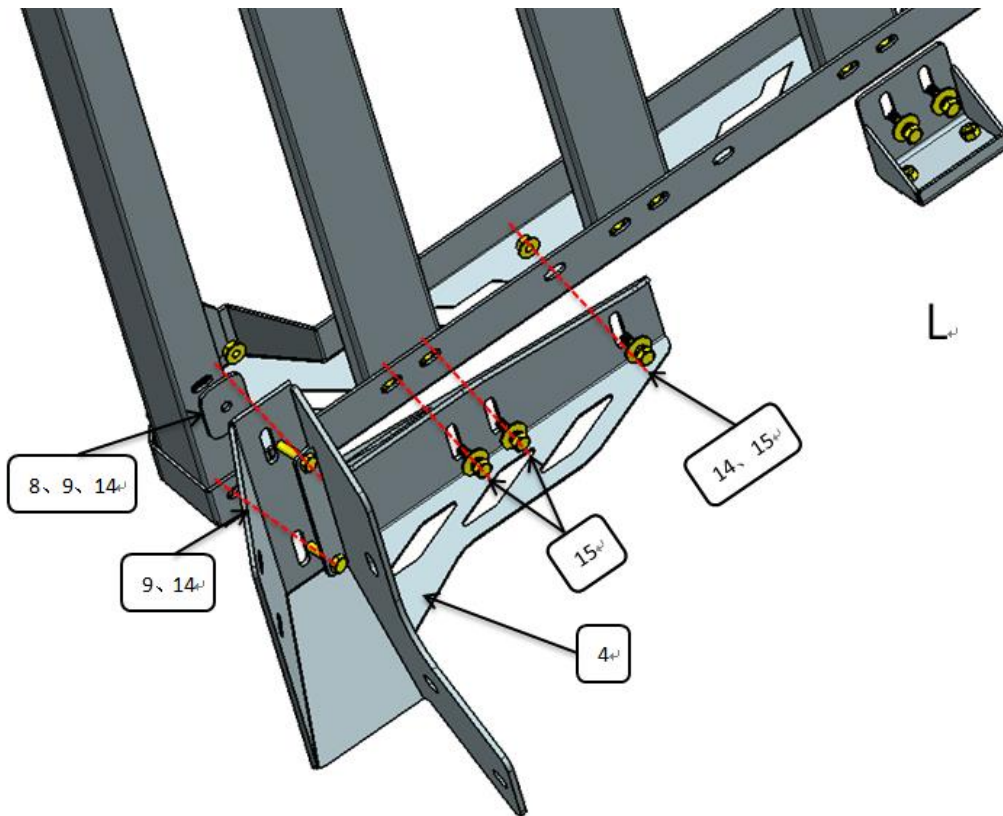

Fig2.
Step 2: Connect two connect brackets ④ ⑤ with roof rack with accessories as FIG2 shown.